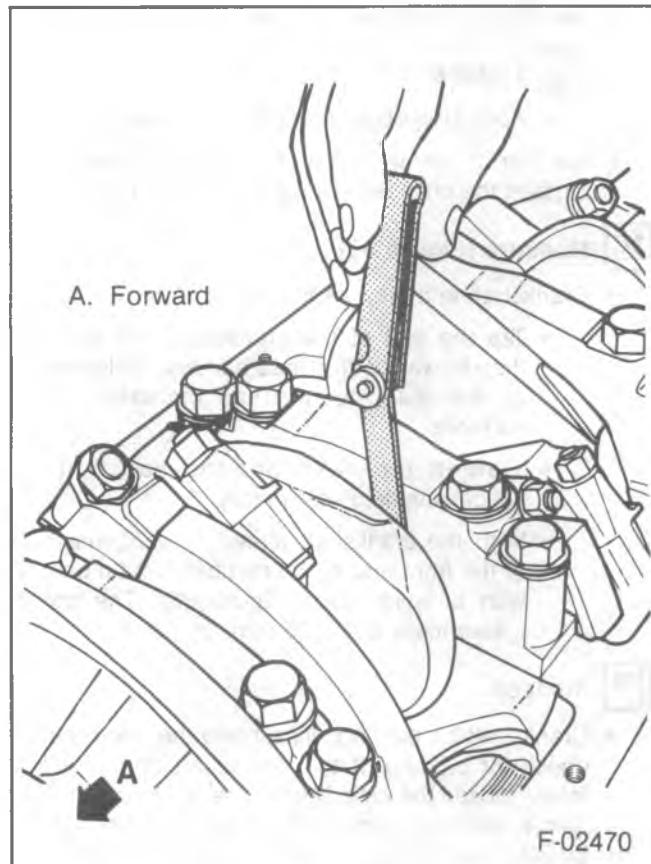

Figure 35—Measuring Crankshaft End Play
Measure (Figure 35)
- With the crankshaft forced forward, measure at the front end of the number 3 main bearing with a feeler gage (figure 35). The proper clearance is 0.10-0.25 mm.